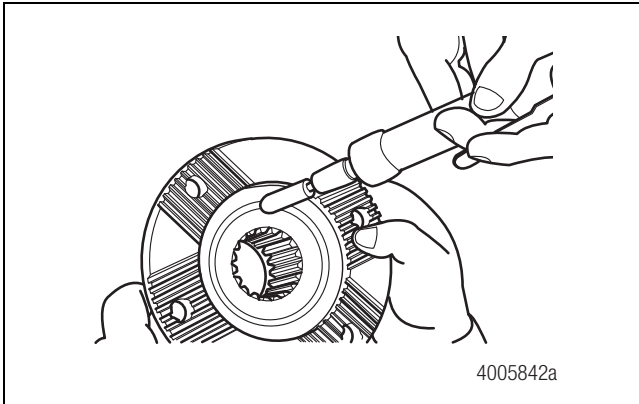

Figure 5.12
17. Inspect the companion flange face for damage caused when the nut was removed. Grind away any protruding metal to ensure a flat surface for full contact of the new nut. Replace the flange if excess wear or damage is found. Figure 5.12.